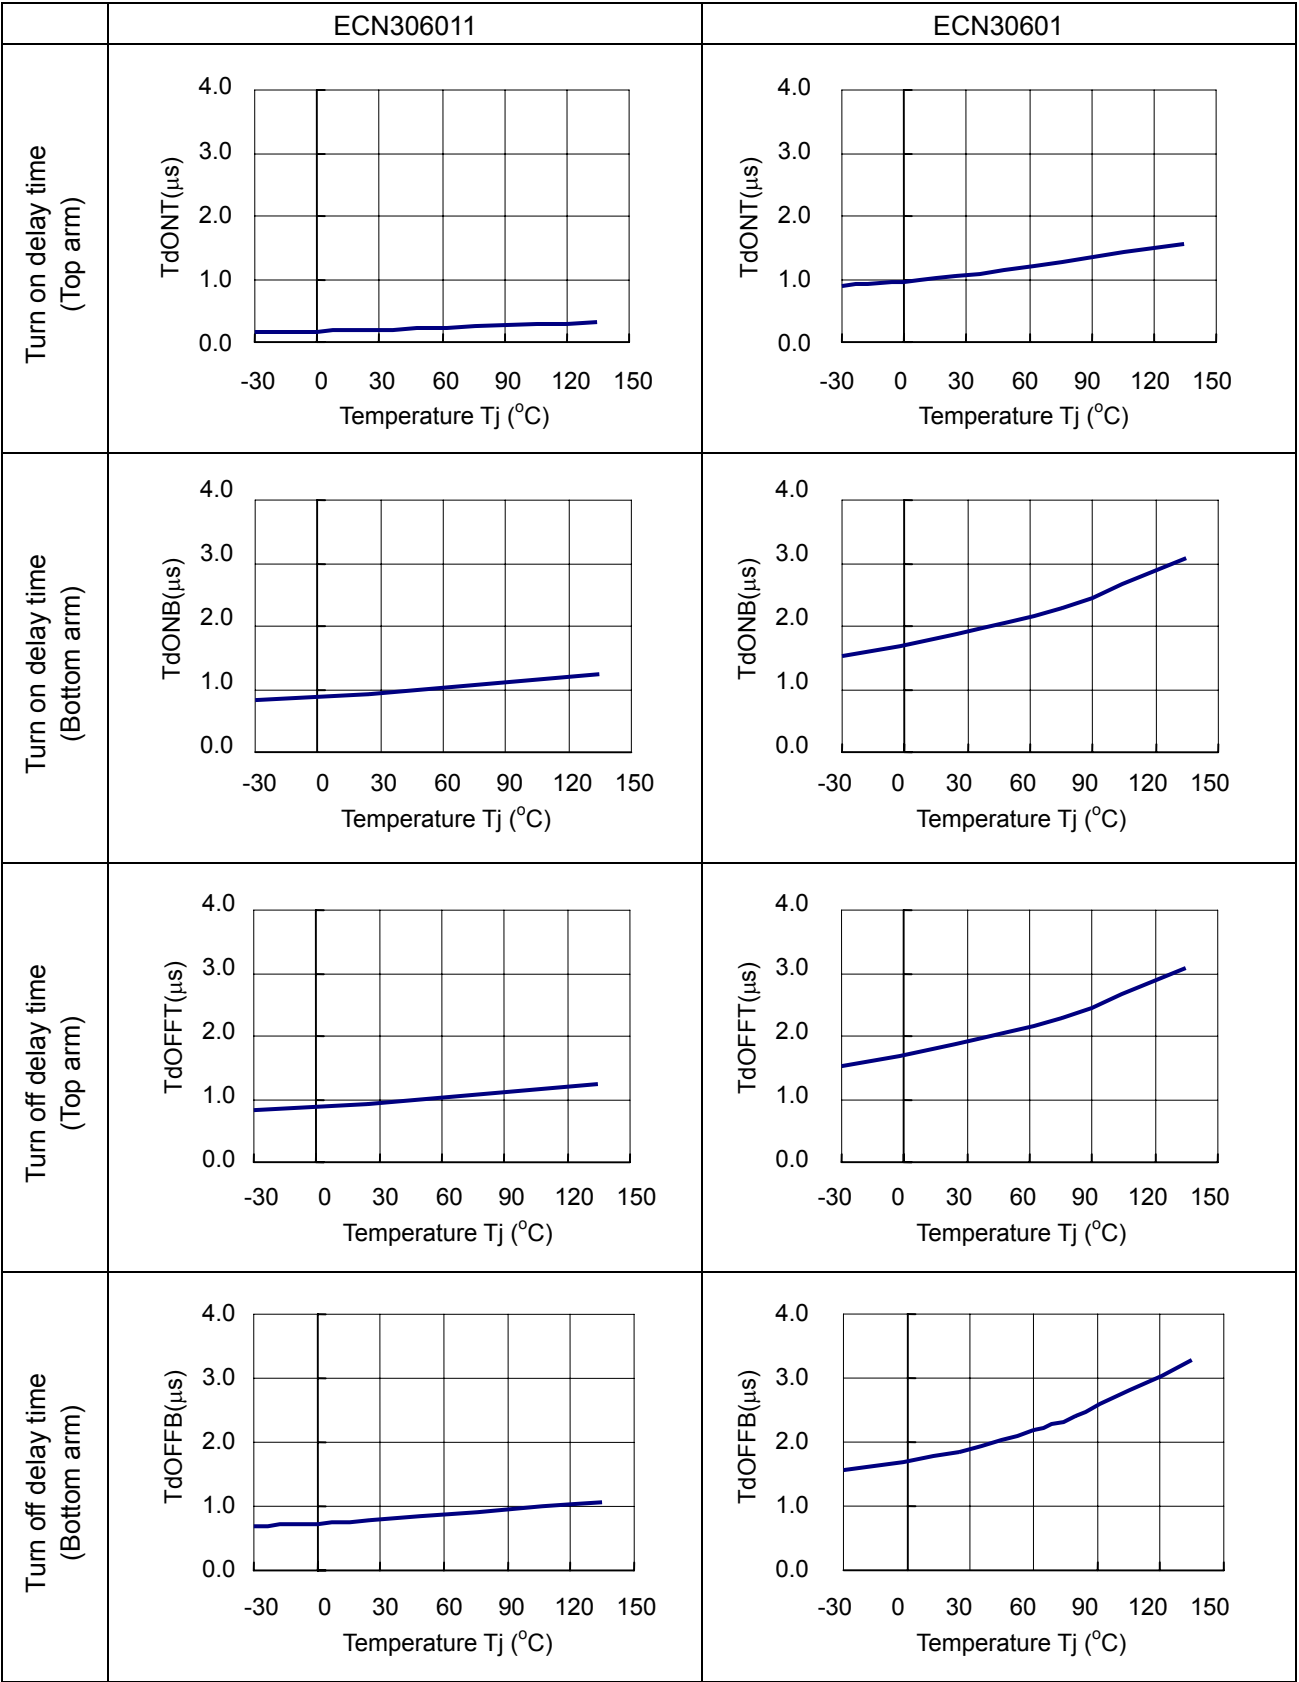
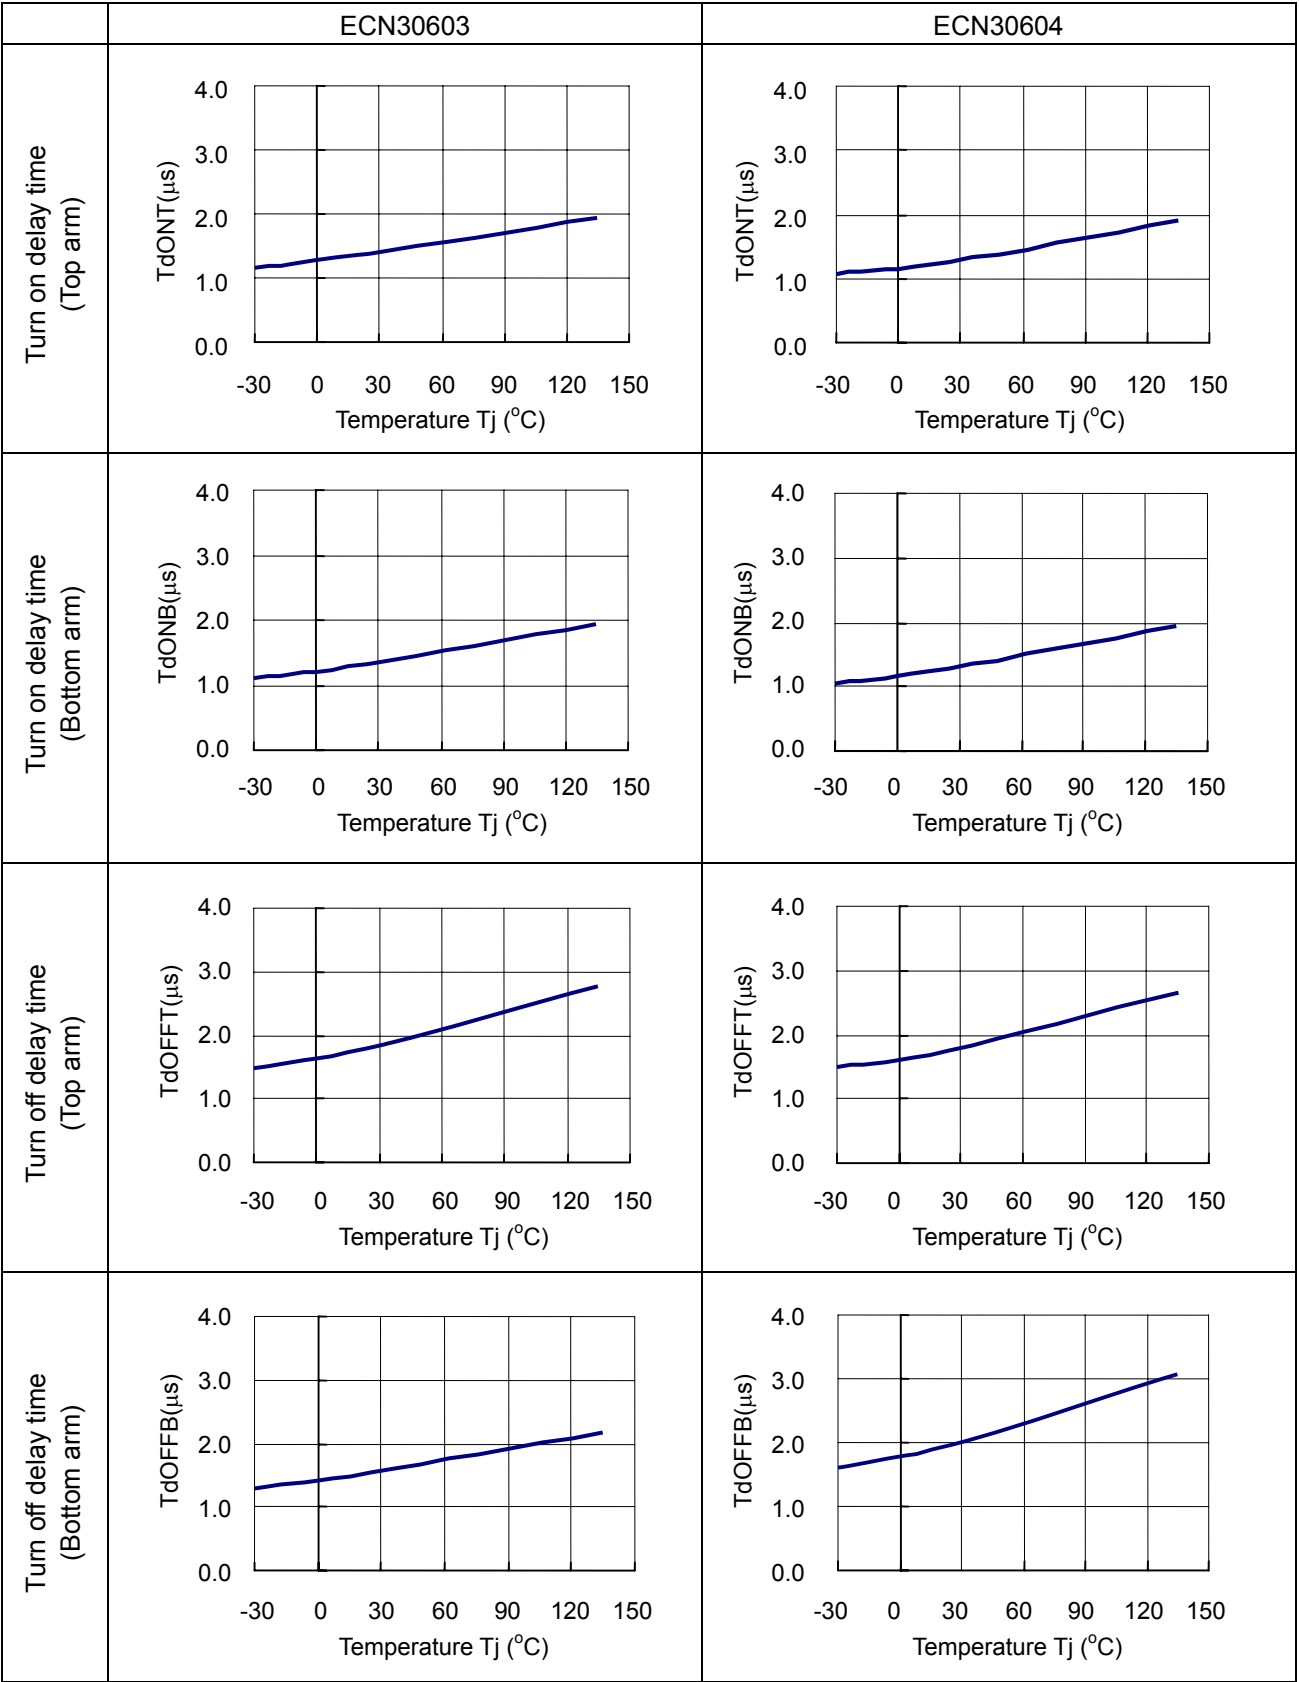

Fig. 5-14 Temperature-dependency of TdON and TdOFF (1)
Fig. 5-15 Temperature-dependency of TdON and TdOFF (2)
- The TdON and TdOFF have temperature-dependency (see Fig. 5-14 to Fig. 5-15). These should be considered as well.